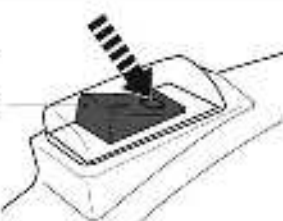

Fig. 13
- > Set the ignition switch (1) to the OFF position O to shut the product off (Fig. 13).